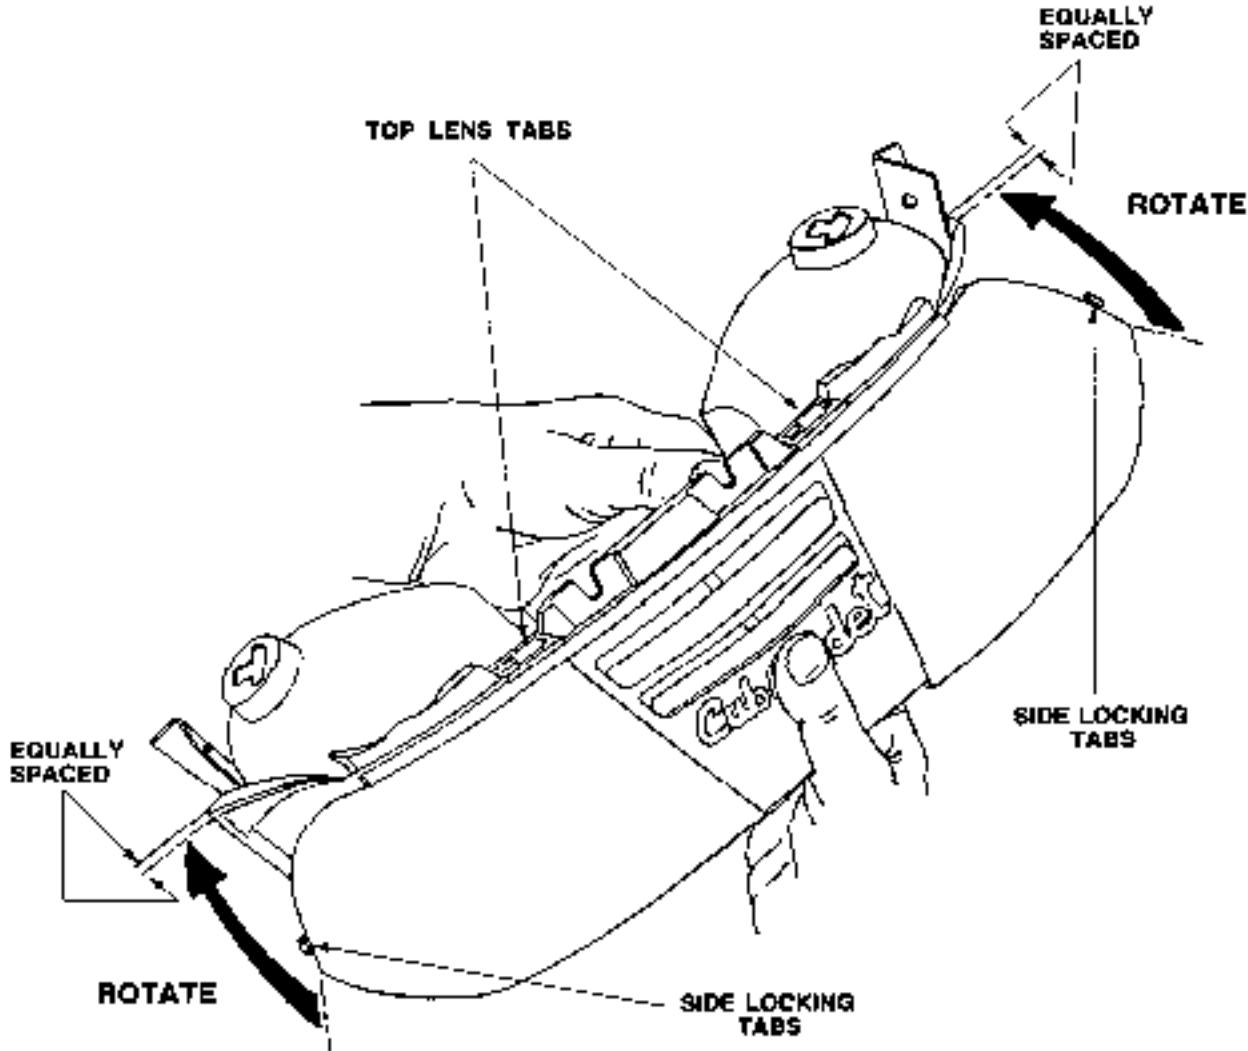

Figure 5-3. Headlight Reflector and Lens Assembly.
1. Separate the hood (28) from the grille (6) by removing the hex flange lock nuts (14) and spring washers (24) which fasten the short and long hood links (7 and 8) to the upper hood bracket (3).
2. Disassemble the hood (28) as follows:
- a. Remove the truss tap screws (12) fastening the upper hood bracket (3) to the hood (28).
- b. Using a small screwdriver, carefully pry the side locking tabs of the headlight lens (19) to release them from the front flange of the hood (See Fig. 5-3).
- c. Remove the truss tap screws (12) and flat washers (25) securing the headlight reflector (20) to the hood.
- d. Remove the upper hood bracket (3) and headlight reflector (20) from the hood as an assembly by carefully spreading the hood sides enough to allow removal. Remove the U-type speed nuts (17) from the hood.
- e. Remove the truss tap screw (12) from each side of the headlight reflector (20) to separate the reflector from the upper hood bracket (3).
- f. Remove the headlight lens (19) from the reflector (20) by depressing either the upper or lower locking tabs of the lens to release them from the reflector slots (See Fig. 5-3).
- b. Position the heat baffle seal (16) and press onto the rear hood baffle. The seal should completely cover the bottom edge of baffle.
- c. Position the hood guide (11) in the hood, with the flat surface of the guide toward the front. Position the hood latch spring (22) on the mounting flange of the guide and secure both with the hex wash. hd. tapp screws (13).
- d. Assemble the headlight lens (19) and reflector (20) as follows.
1. Holding the lens (19) at approximately a right angle to the reflector (20), insert the top lens tabs into the slotted ears of the reflector (see Fig. 5-3).
3. Slide the lens in the direction necessary to center the lens on the reflector. The lens must be properly centered to enable the side locking tabs of the lens to engage the hood flange when assembled (see Fig. 5-3).
- e. Install the headlight reflector/lens on the upper hood bracket (3), with bottom of reflector toward bracket mounting flange. Secure with truss tap screws (12).
- f. Slide the U-type speed nuts (17) onto the flange of the hood.
- g. Spread the hood sides to install the upper hood bracket/reflector assembly INSIDE the hood flanges. Make certain the upper ears of the reflector are also inside the front hood flange, and that the U-type nuts (17) have not been dislodged.
- h. Secure the reflector to the hood using the flat washers (25) and truss tap screws (12).
- i. Secure the upper hood bracket (3) to the hood with the truss tap screws (12).